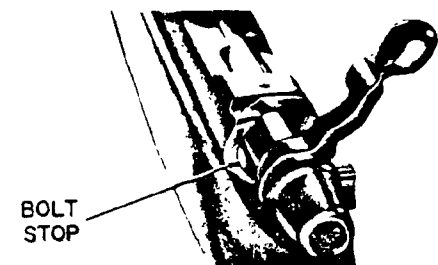

Fig. 1
**O REMOVE BOLT** — Push safety forward to unlock bolt and raise bolt handle. Pull bolt rearward. Press down on front of bolt stop. Bolt stop is located in left rear of bolt channel in receiver (Fig. 1). Use small flat key or screw driver. Allow bolt to slide back and disassemble as bolt stop is passed; lift bolt from gun.
**CLEANING AND CARE** — **Caution:** Make sure rifle is empty of live ammunition (before cleaning). To make cleaning of barrel or bolt easier remove bolt from rifle. (See Fig. 1). Use a good petroleum solvent for cleaning of parts.